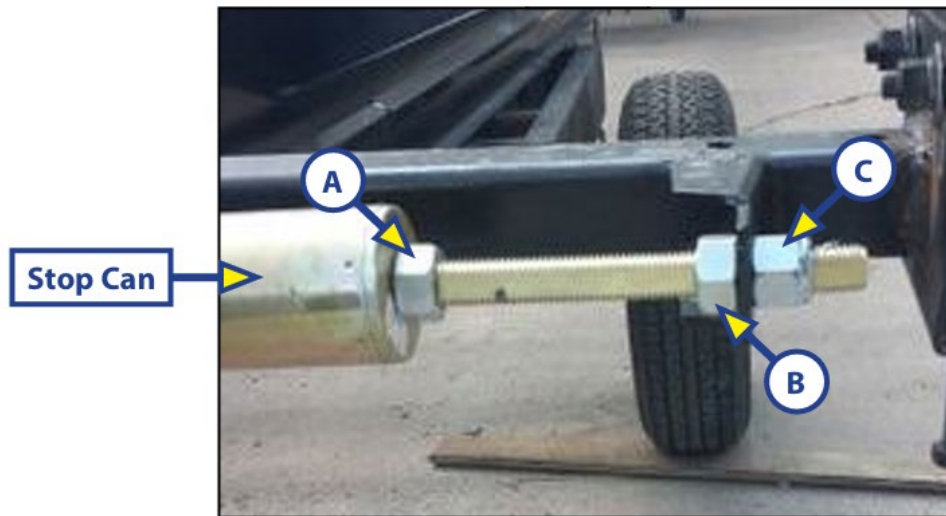

Figure 44. Electric slide-out IN and OUT adjustment components on the actuator.
3. Referring to Figure 44, loosen the 3/4" jam nut at the end of the stop can using a 1-1/8" wrench (A).
6. Tighten the jam nut (A) back against the Stop Can and test the room "IN" position.